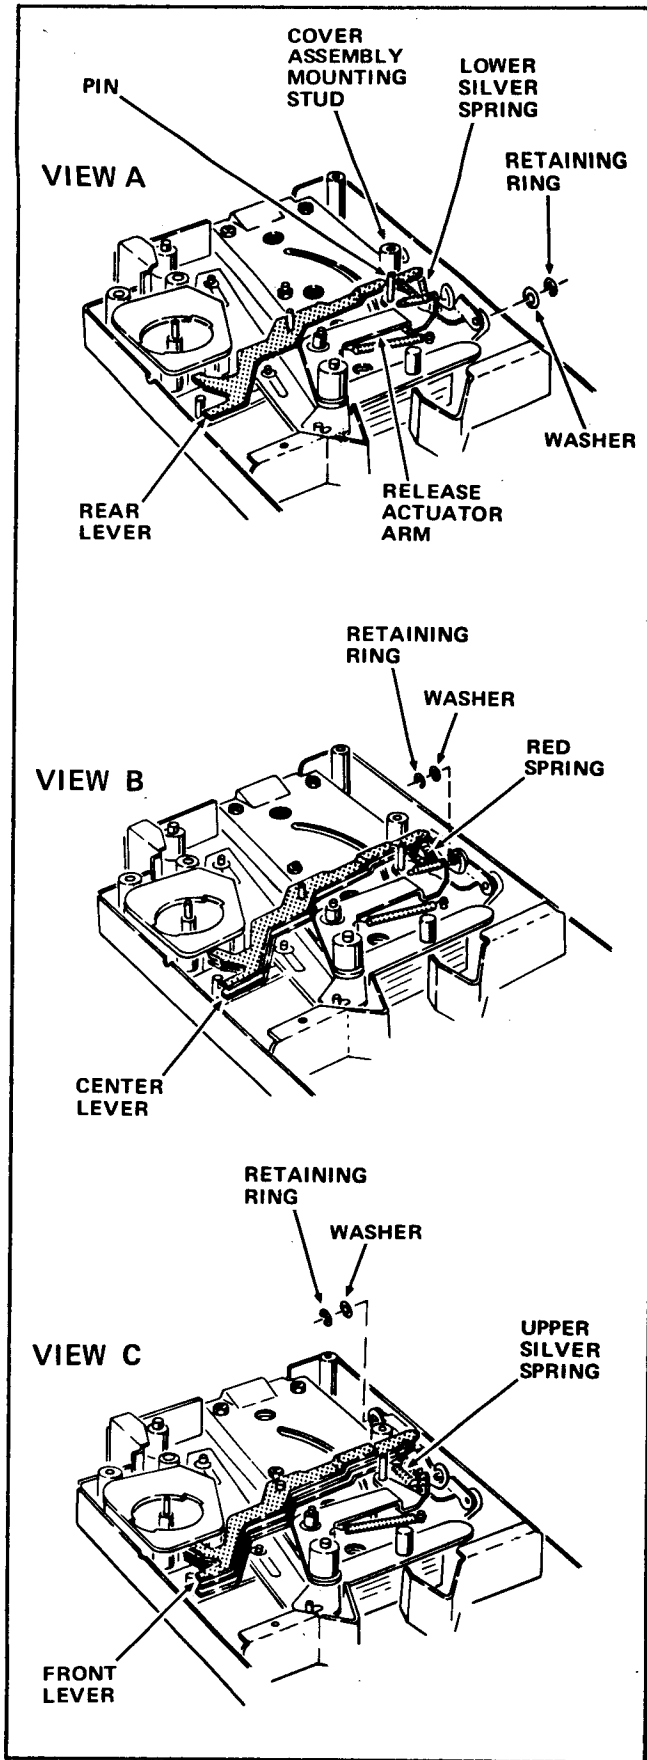
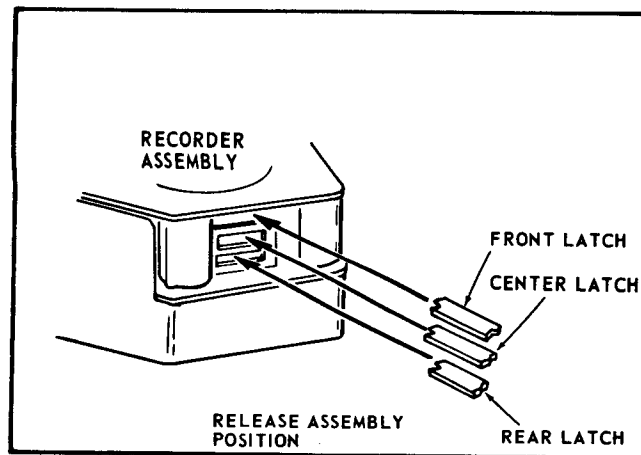

FIGURE 11
FIGURE 12
31. Install the Rear Latch Release Assembly, part number 5560-042, on the pivot stud. Place the end of the Latch Release in the lower slot in the sheet metal flange in the bottom end of the Recorder Assembly. Insert the pivot pin on the Latch Release Assembly into the loop in the Wire Form which is toward the bottom of the Coin Mechanism. Be sure the Latch Release Assembly is between the Cover Assembly Mounting Stud and the Pin at the end of the Release Actuating Arm Assembly. See Figure 11 View "A" and Figure 12.
34. Install the Center Latch Release Assembly, part number 5560-043 on the pivot stud. Place the end of the Latch Release in the upper slot in the sheet metal flange on the Recorder Assembly. Insert the pivot pin on the Latch Release Assembly into the loop in the center Wire Form. See Figure 11 View "B" and Figure 12.
37. Install the Front Latch Release Assembly, part number 5560-044 on the pivot stud. Place the end of the Latch Release in the space above the metal flange on the Recorder Assembly. Insert the pivot pin on the Latch Release Assembly into the loop in the upper Wire Form. See Figure 11 View "C" and Figure 12.
43. While the bottom end of the Recorder Assembly is raised, install the Rear Latch Release Assembly on the pivot stud and into the lower of the two slots referred to in the Note in step 42. See Figure 12.
When performing steps 43, 44, and 45, be sure the Release Assemblies are between the Cover Assembly Mounting Stud and the pin at the end of the Release Actuating Arm Assembly. See Figure 11, view "A".